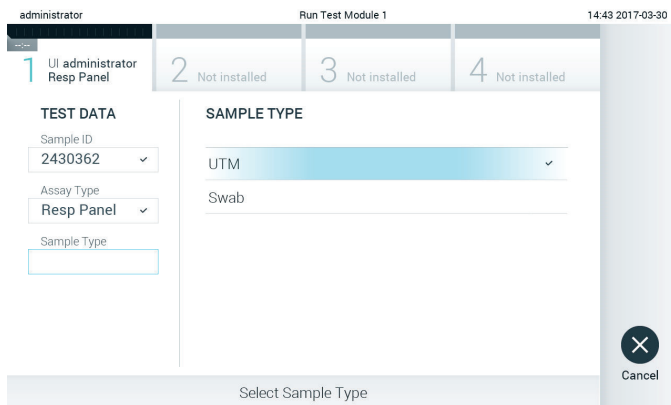

Figure 25. Selecting sample type.
- If required, select the appropriate sample type from the list (Figure 25).